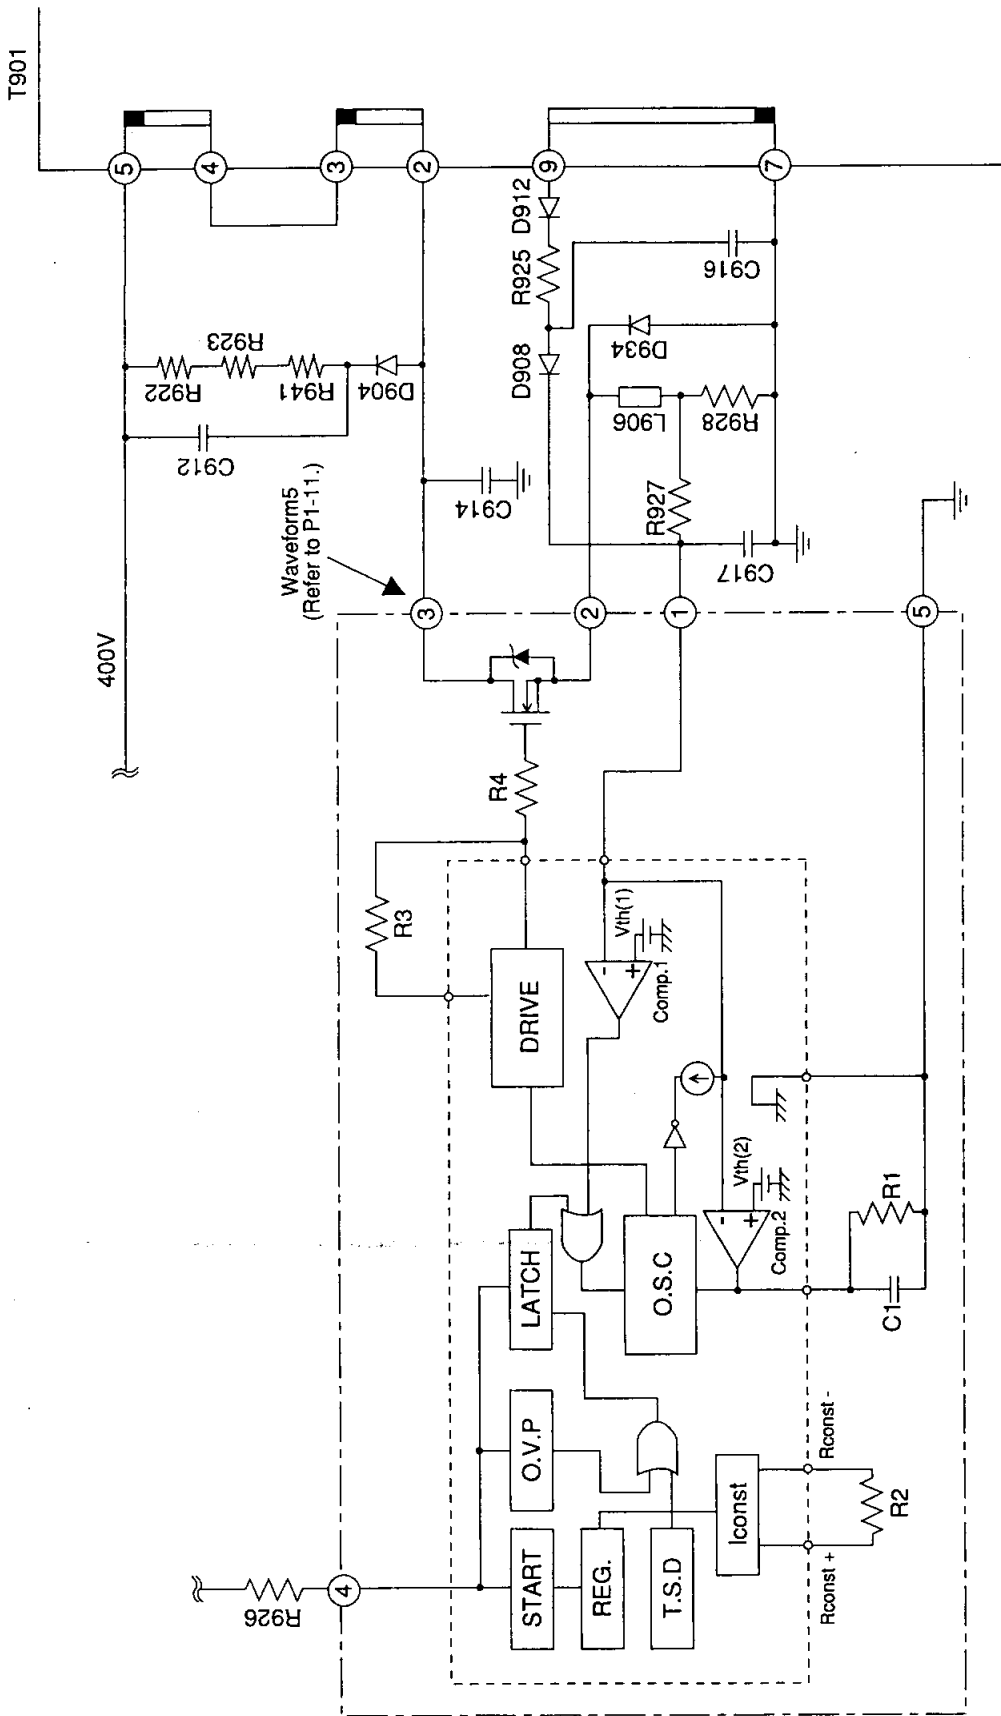

Figure 4. IC902 (STR-F6676) block diagram and peripheral circuit
- (1) The main power circuit adopts the flyback type switching power of pseudo-resonance operation. This is composed of a Sanken brand hybrid IC (STR-F6676) that integrates the power MOS-FET and control IC. The circuit operation is described as follows. (See Fig. 4.)
- (2) The timing at that the power MOS-FET is turned ON is consistent with the bottom point of the voltage resonant waveform after the transformer (T901) discharges the energy to the secondary side, that is, a half cycle of the resonant frequency determined by Lp value (primary coil inductor value) of T901, and C914 (resonant capacitor). This is called pseudo-resonance operation. The advantage of such an effect is that the switching loss is reduced by turning it ON when the voltage between the drain sources of the power MOS-FET becomes the lowest.
- (3) Like the higher harmonic circuit, voltage of approx. +18V is supplied to the Vcc terminal (Pin 4) of IC902 (STR-F6676) via D932 from Pin 2 of T902 when Q902 is turned ON by the P-SUS signal from the MPU. When the voltage of Pin 4 of IC902 reaches 16V, the control circuit will be put into operation to turn ON the integrated MOS-FET.
- (4) When MOS-FET is turned ON, the capacitor C1 in IC will be charged to approx. 6.5V. On the other hand, the drain current flows to R928, and the voltage generated by the voltage drop is applied to Pin 1 (OCP/FB terminal) of IC902. When the voltage of Pin 1 reaches approx. 0.73V, the comparator (Comp. 1) in IC will be activated to turn OFF MOS-FET.
- (5) The voltage between both ends of C1 drops to approx. 3.7V. the oscillator output will be reversed again to turn ON MOS-FET. The above is repeated to continue the oscillation operation.
- (6) Here, IC902 monitors +190V of the output on the secondary side with IC921 (error amplifier) and feeds back it to Pin 1 of IC902 with IC911 (photocoupler), thus suppressing the voltage fluctuation of the primary side.